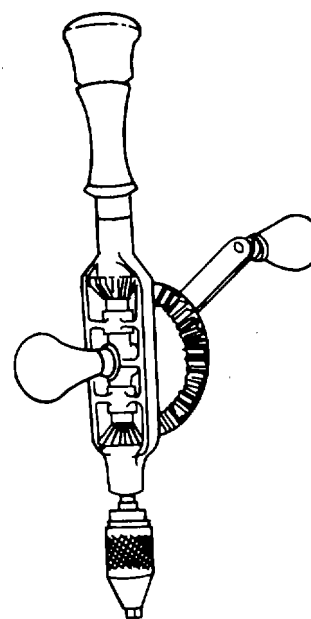

Figure 4-81. Hand Drill
(2) Hand drill. The hand drill, shown in figure 4-81, has a handle to provide pressure by hand. This drill is used to drill holes in wood and sheet metal, and